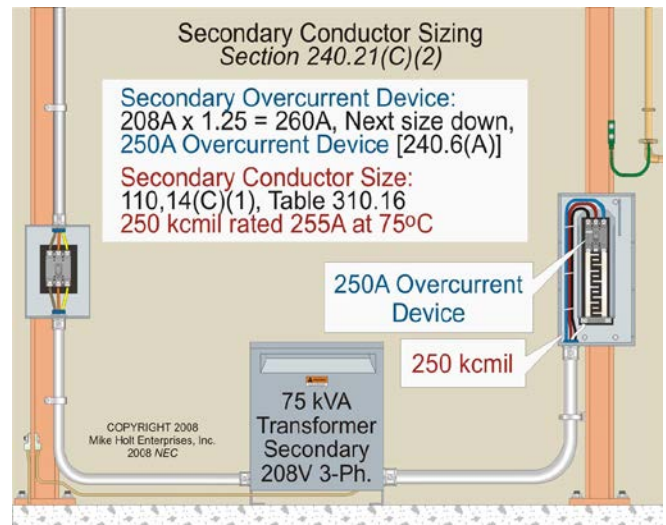

Figure 12-53
**Author's Comment:** We're allowed to round up to the next size overcurrent device as seen in this example. However, if you don't choose to do so, the secondary can be protected with a 250A overcurrent device and the secondary conductors can be sized at 250 kcmil, which is rated 255A at 75°C. **Figure 12-53**